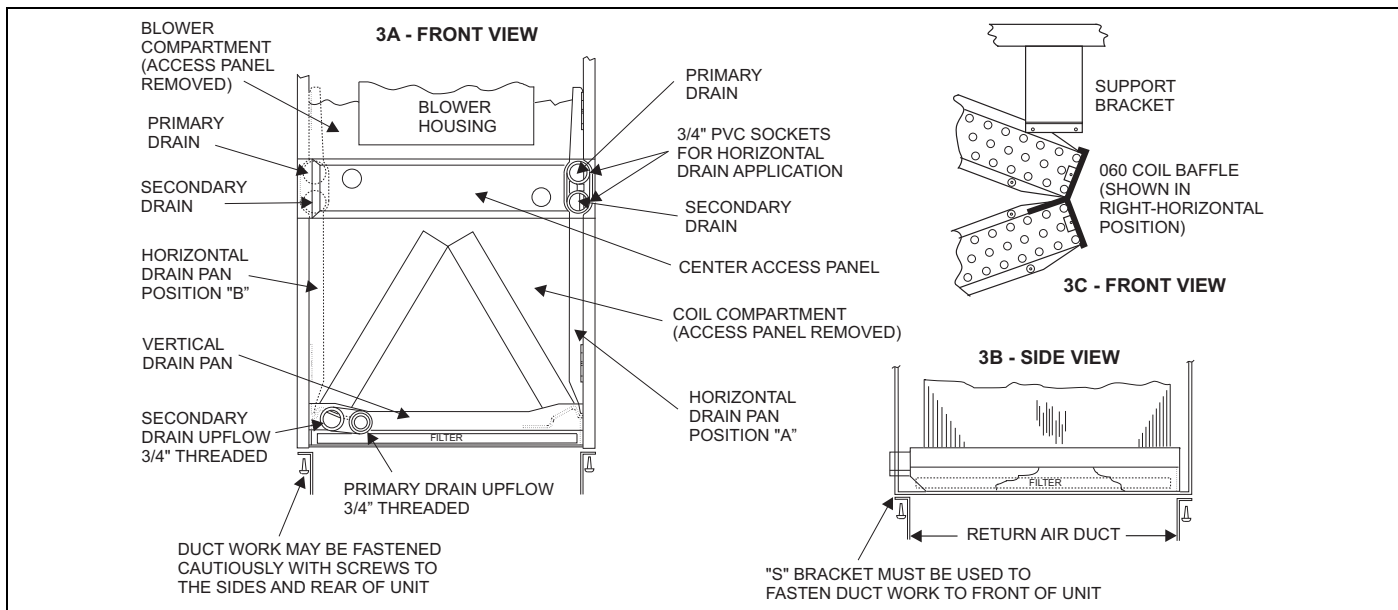

FIGURE 3: Filter Access & Drain Pan Conversion / Coil Baffle
2. Remove two screws from horizontal drain pan, to remove pan from position "3A" if factory installed. See Figure 3.